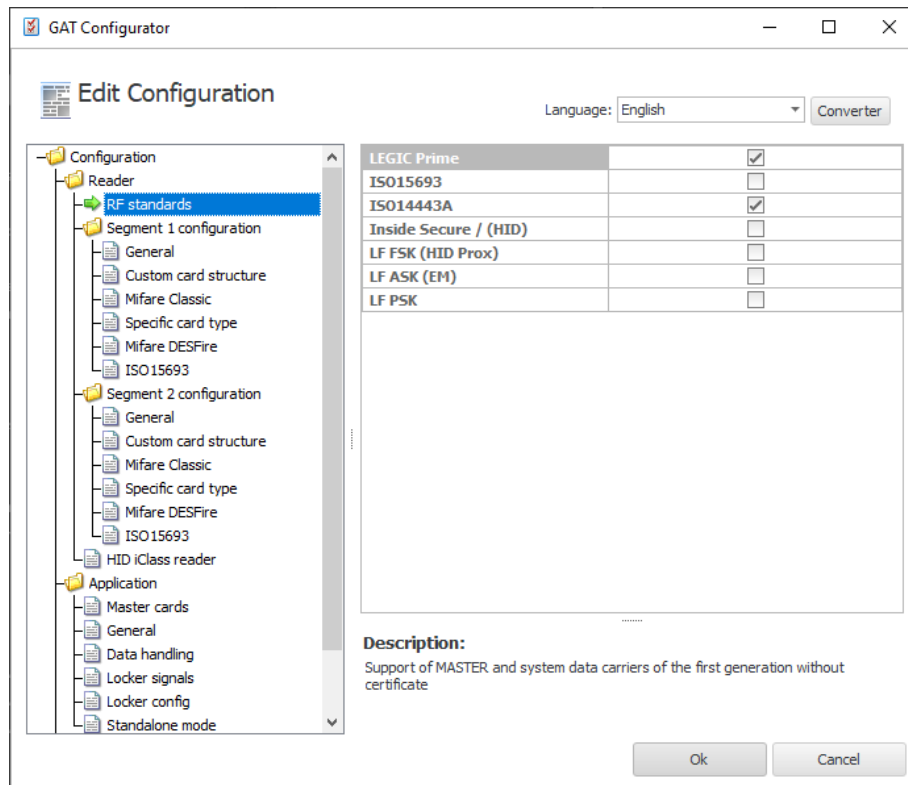

Figure 3.10 – “GAT Configurator” configuration window
- The “GAT Configurator” window opens (Figure 3.10).
- Click on "OK" in the GAT Configurator window (Figure 3.10).